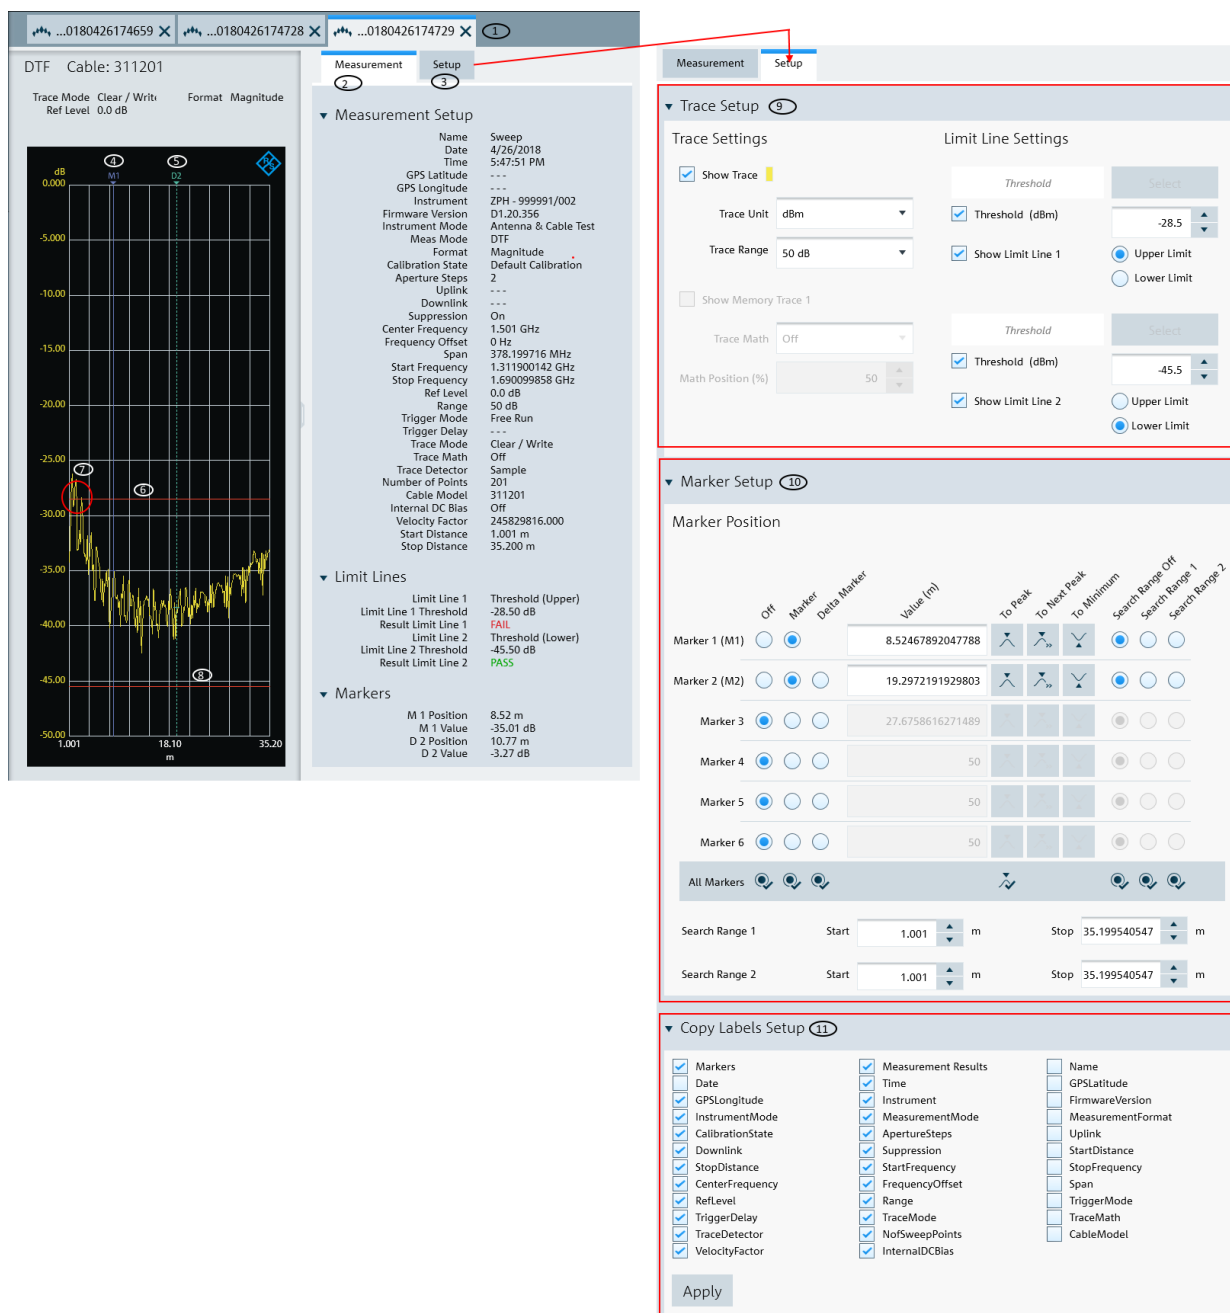

Figure 5-2: Trace measurement window
The "Get Trace" menu allows you to capture the current trace measurement from the instrument and display it in the trace window. A new tab is formed in the "Tab header bar" for every new trace captured from the instrument. See index 1 in Figure 5-2.
See index 6 and 7 in Figure 5-2.
Trace measurement details captured from the instrument are displayed in the "Setup" tab. You can edit existing setup information or add additional setup information on the selected trace measurement. See index 3 in Figure 5-2.
- The "Limit Line Settings" provides two sets of limit line that you can apply on the trace window. Each set of the limit line provides the selection to apply it as "Upper Limit" or "Lower Limit". The test result of the limit line is displayed in the "Measurement" tab. See index 2 in Figure 5-2.
See details of the "Measurement" tab in index 2 of Figure 5-2.
See details of the "Setup" tab in index 3 of Figure 5-2.